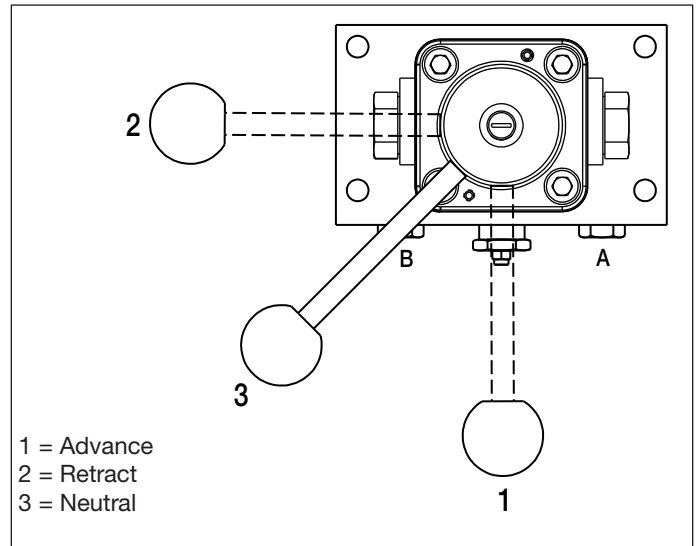
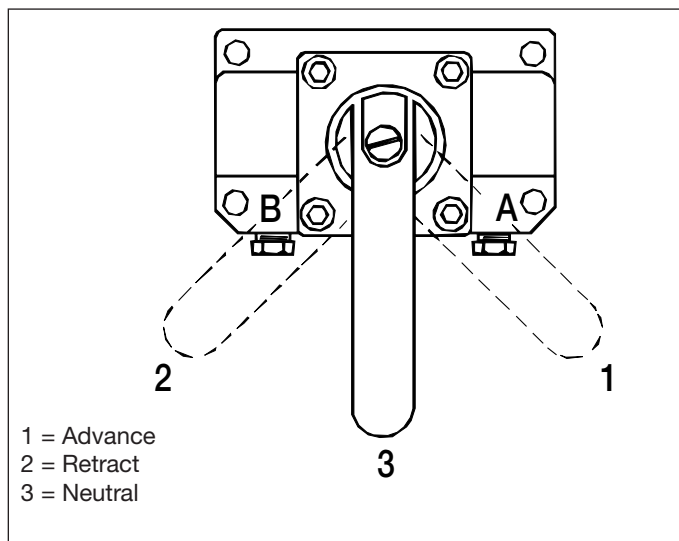

Figure 12, Valve Handle Positions, VM33M, VM43M
Figure 11, Valve Handle Positions, VM33, VM33L, VM43, VM43L
4. Rotate the control valve handle to the neutral ("3") position. See Figure 11 for VM33 and VM43 valve positions. See Figure 12 for VM33M and VM43M valve positions.
4. Rotate the control valve handle to the neutral ("3") position. See Figure 11 for valve positions.